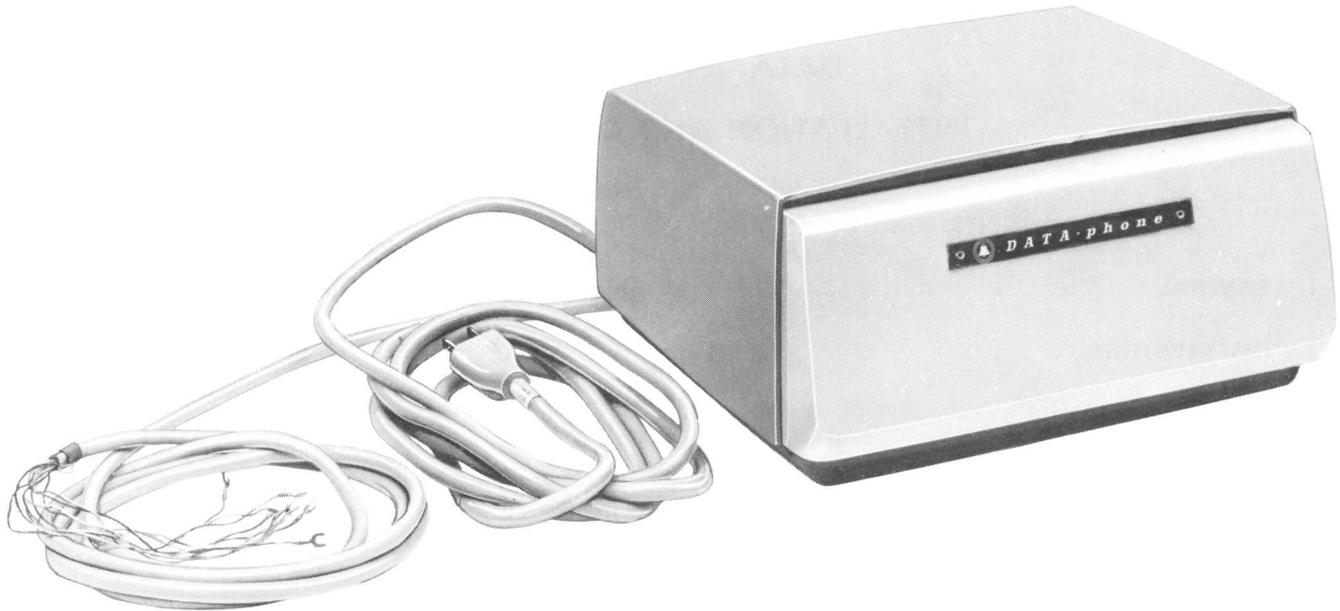

Fig. 1—Data Set 103H-Type
1.01 This section describes the procedure to be followed for the installation of Data Set 103H-type (Fig. 1).